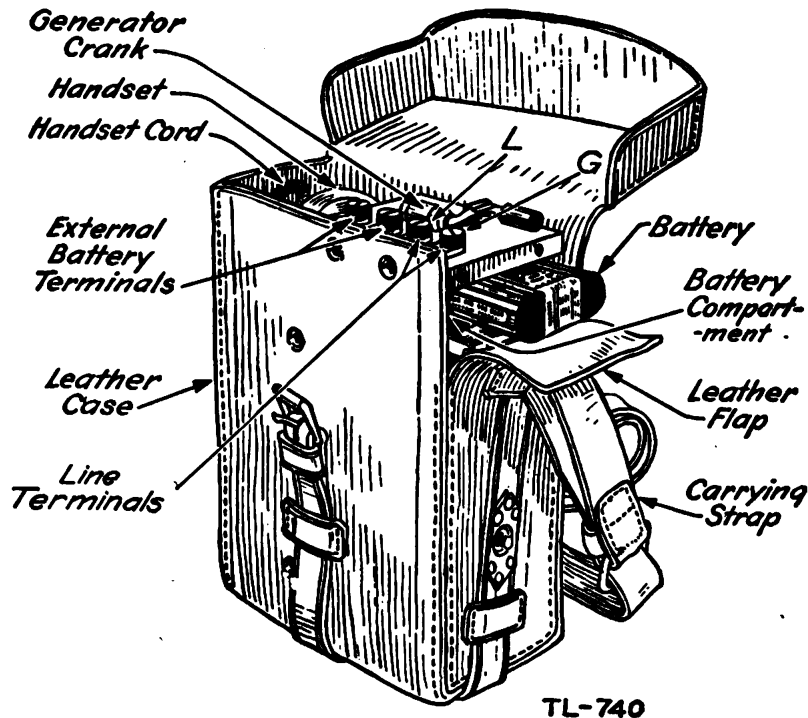

FIGURE 146.—Field telephone, type EE-5.
Q. How is the battery installed in the EE-5 telephone? *A.* One battery BA-9 ($4\frac{1}{2}$ volts) is inserted in a spring clip just below the top of the frame (fig. 146). The battery is covered by the leather flap formed by one side of the case. Two screws which hold this flap to the frame must be removed to insert the battery, after which the screws should be replaced.